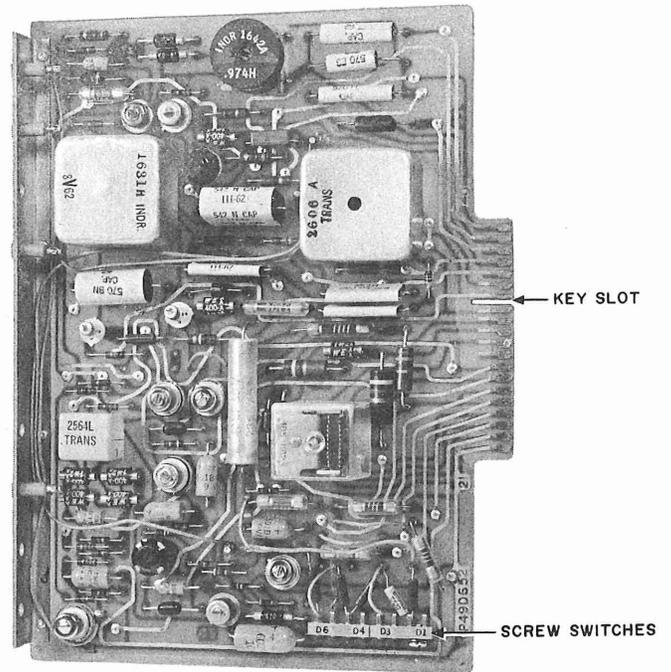

Fig. 2 - DEMODULATOR Card, Side View
2.06 Fig. 2 is a side view of DEMODULATOR card. It shows the location of: